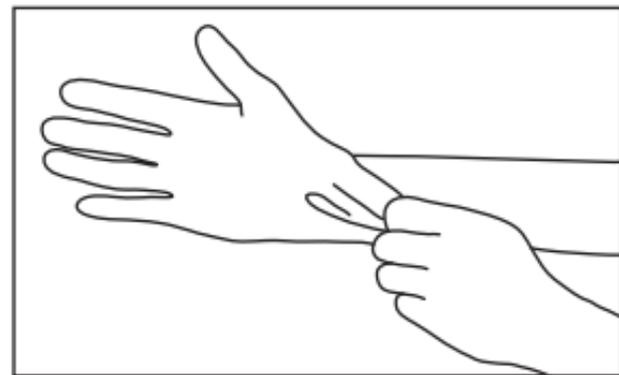

Fig. 10
1) Always wear protective gloves, a mask, and protective goggles for safety purposes and to minimize the risk of infection. (Fig. 10)